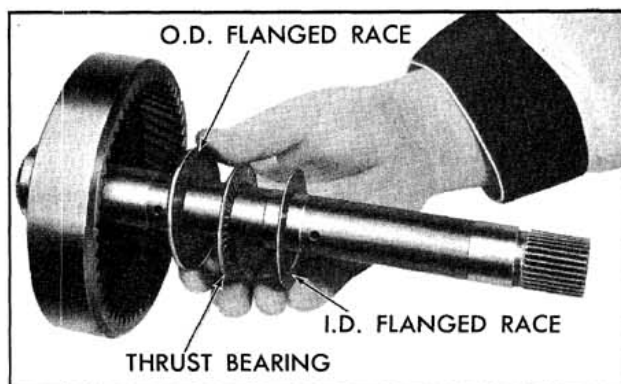

Fig. 6-89 Removing Thrust Bearing
12. Remove the rear internal gear to sun gear thrust bearing and two races. (Fig. 6-89)